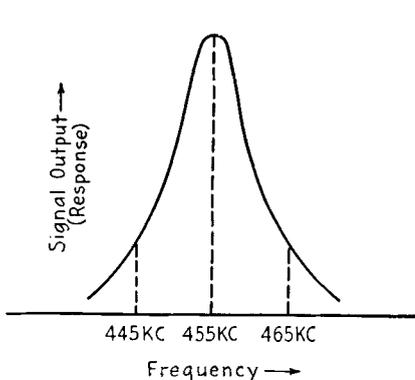
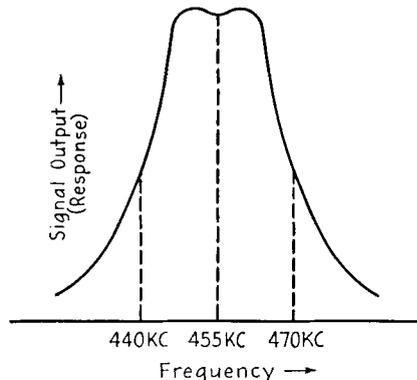

FIG. 13-16. Frequency-response curve of the usual IF transformer.
FIG. 13-17. Frequency-response curve of a high-fidelity IF transformer.
**Broad-band IF amplifiers.** The IF transformers of receivers, like that of the standard, are designed for great selectivity and gain. Figure 13-16 shows the frequency-response curve for such transformers. However, such a circuit has a defect in that it is too selective and attenuates the high-frequency audio signals. This defect is known as "side-band cutting." In high-fidelity reproduction, where the high-frequency audio notes are desired, it is necessary to broaden the response curve of the IF transformers to that shown in Fig. 13-17.